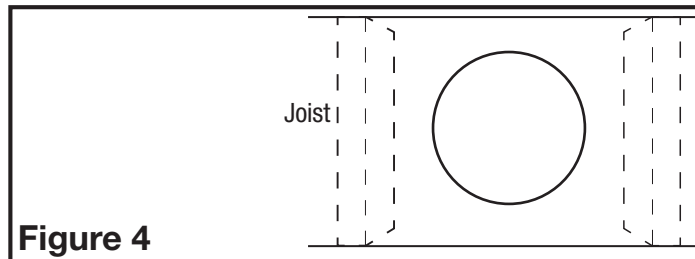

Figure 4
2. Determine the location of the round intake assembly. Cut an 8" round hole through the ceiling material being careful not to damage any electrical wires or other utilities (Figure 4).